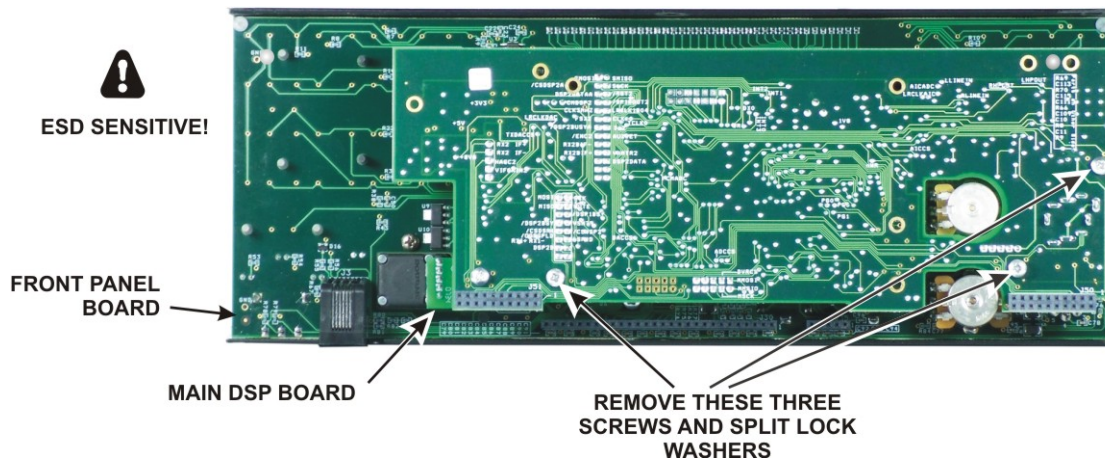

Figure 11. Removing Main DSP Board.
- Remove the three screws and split lock washers shown in Figure 11.
- Replace the three 4-40 1/4" (6.4 mm) zinc pan head screws you removed earlier with a split lock washer under each screw head (see Figure 11 on page 14).